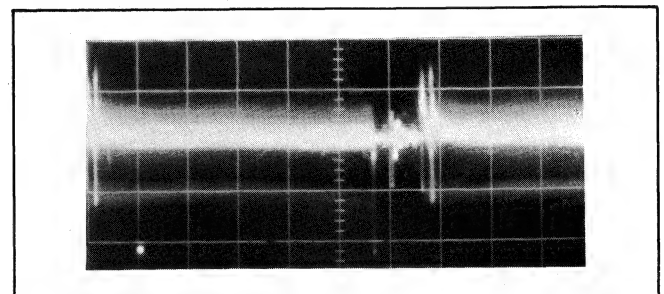

Fig. 10
3. Now, observe the signal at the horizontal rate at test point TP303, and adjust the dark shading control (H. Saw.), BR601-1 and the dark shading control (H. Para.), BR601-2 so that the signal waveform is flattest during the horizontal period as shown in Fig. 10. Trigger the oscilloscope with test point TP606.